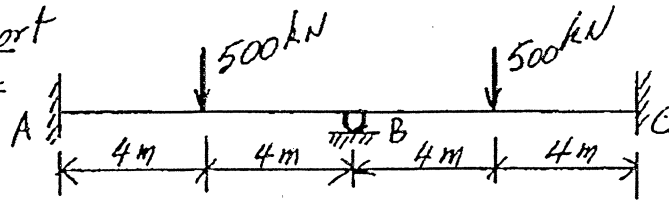

FIGURE 1
1. The beam ABC in Figure 1 is a welded steel plate girder, rigidly supported at A and C. Use a stiffened-web design to determine an adequate section to satisfy:
6. The continuous girder in Figure 1 is to be designed in reinforced concrete. Using the Limit States Design method: